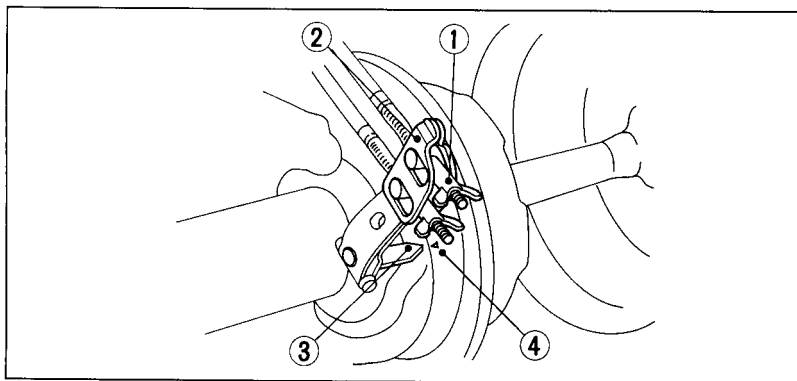

Fig. 4-29
Minor adjustments can be made with the adjuster (2) on the brake lever. Loosen the lock nut (3) and turn the adjuster. Major adjustments should be made using the brake lever adjusting nut on the brake arm (Fig. 4-29).
When the brake is applied, an arrow (3) attached to the brake arm (2) moves toward a reference mark (4) on the brake panel (see Fig. 4-29).